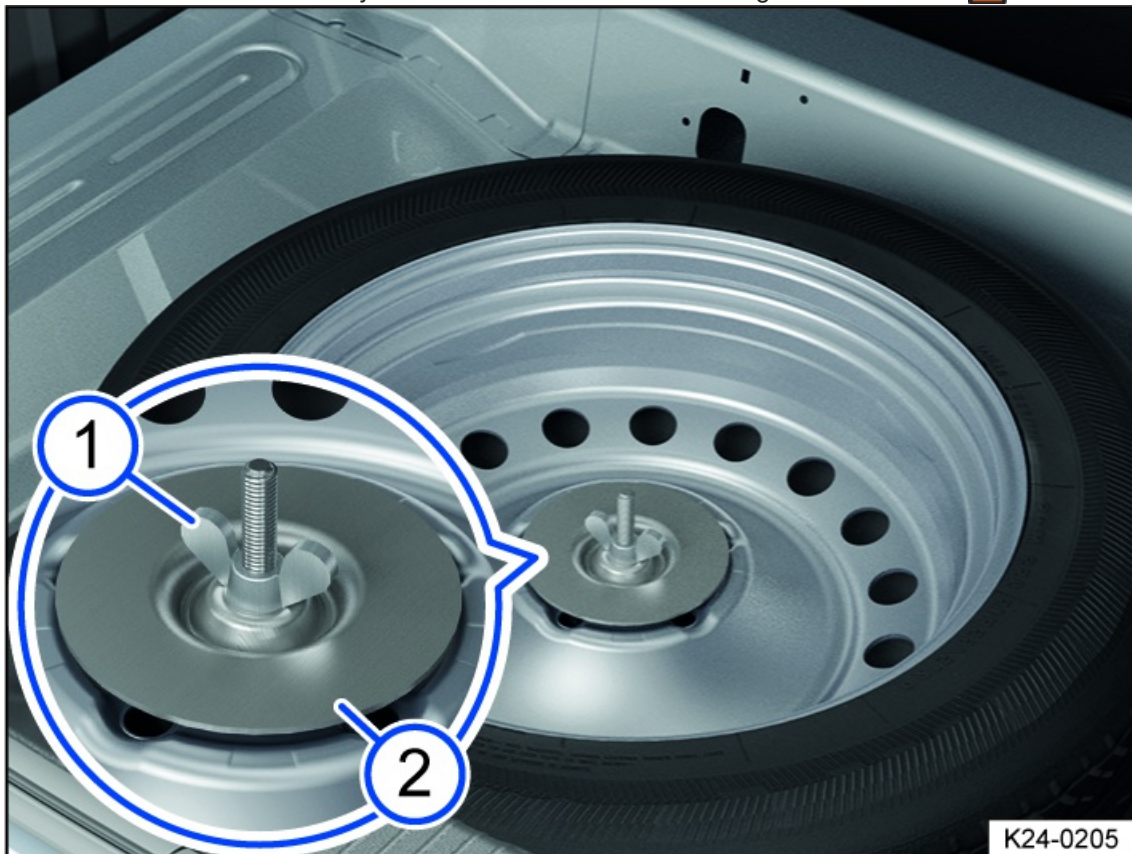

Fig. 185 Under the luggage compartment floor: wing nut to secure the spare wheel or compact spare wheel.
7. Unscrew the wing nut *fig. 185*  in the center of the spare wheel all the way counterclockwise.
8. Remove the lock washer *fig. 185* .
2. Slide the lock washer *fig. 185*  onto the threaded pin.
3. Turn the wing nut *fig. 185*  clockwise onto the threaded pin until the replaced wheel is securely fastened.